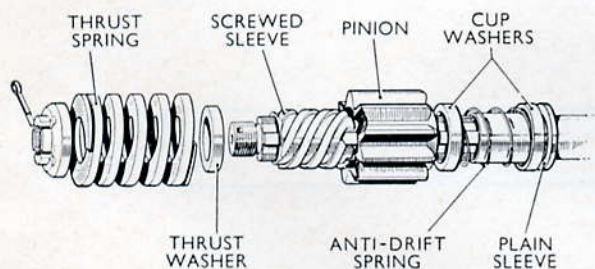

Fig. Q.2. Details of the starter run-off helix drive used on diesel-engined models
To prevent overstressing the armature, the M45G starter incorporates a run-off helix drive as shown in Fig. Q.2.
- On the M45G starter, remove the split pin from the shaft nut (Fig. Q.2), secure the squared end of the shaft in a vice and unscrew the nut anti-clockwise.